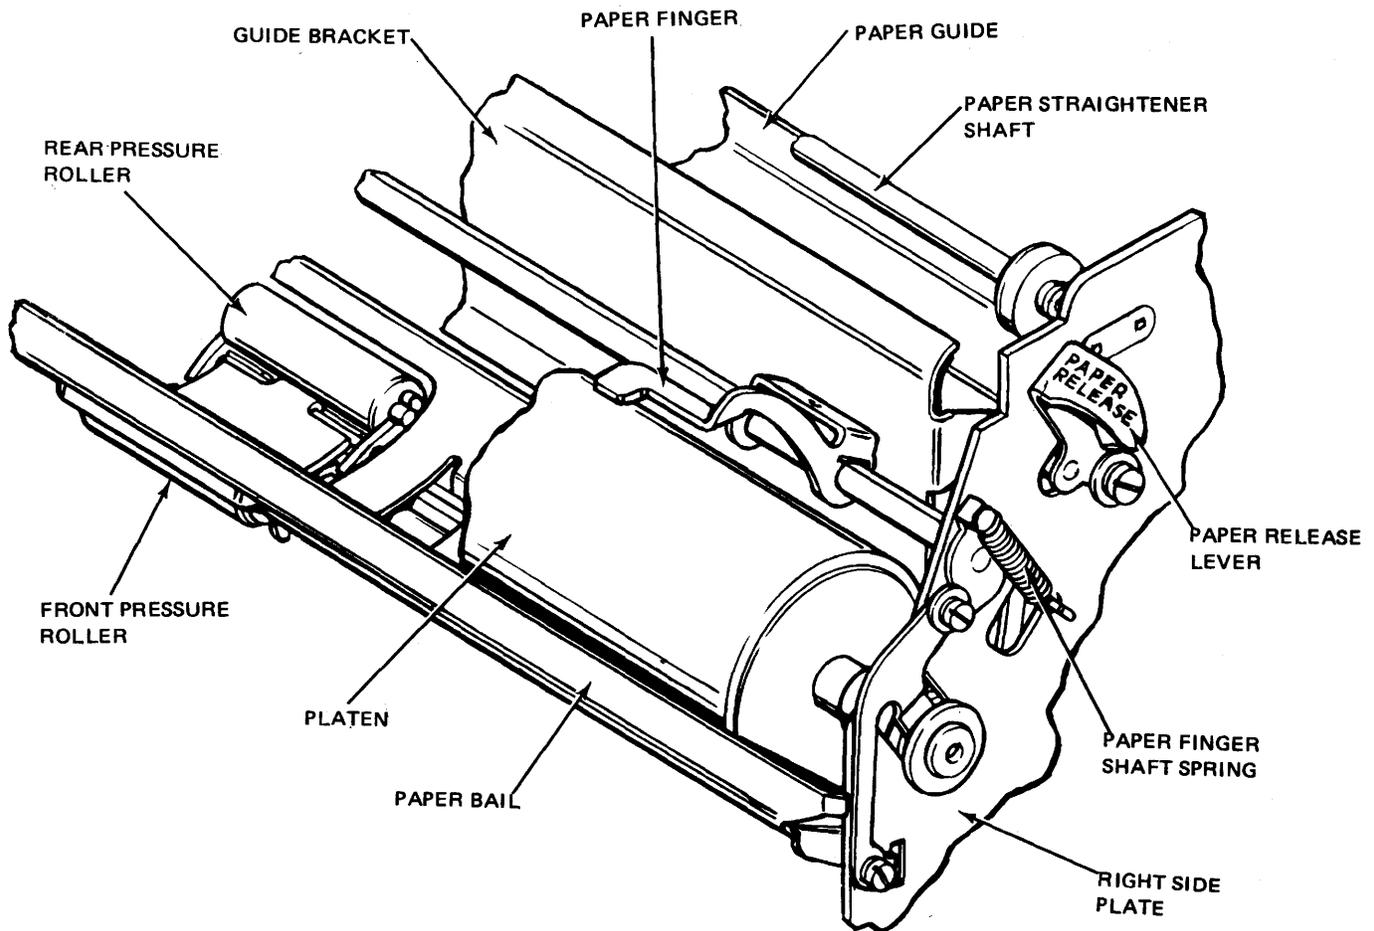

Figure 6-54. Friction Feed Platen Mechanism.
- c. Remove top screw from platen retainer mounted on outside of left side frame. (See figure 6-54 for right side view.)
e. Remove platen retainer mounted on right-side frame (see figure 6-54).
p. Ensure that platen detent bail stud is seated between two teeth on line feed spur gear (see figure 6-54; then proceed to step 5 r.). If stud is not seated, proceed to step 5 q..